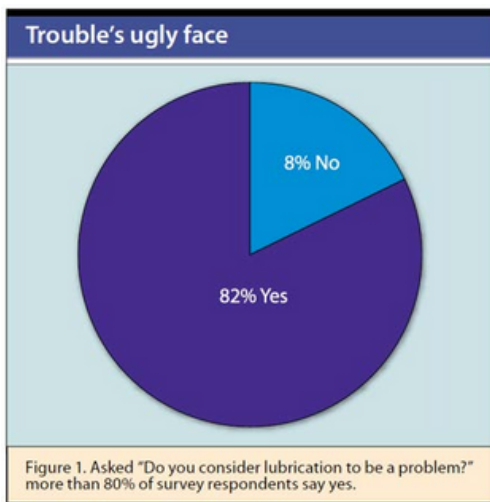

Figure 1
1. Do you consider lubrication to be a problem? Responses to this first question clearly show the significance of lubrication, with more than 80% saying it is a problem in their operation (Figure 1).